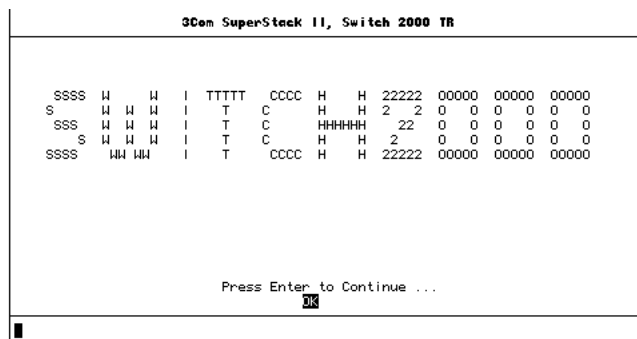

Figure 3-5 Main Banner
- 2 Press [Return] one or more times until the Switch 2000 Main Banner appears. See Figure 3-5.